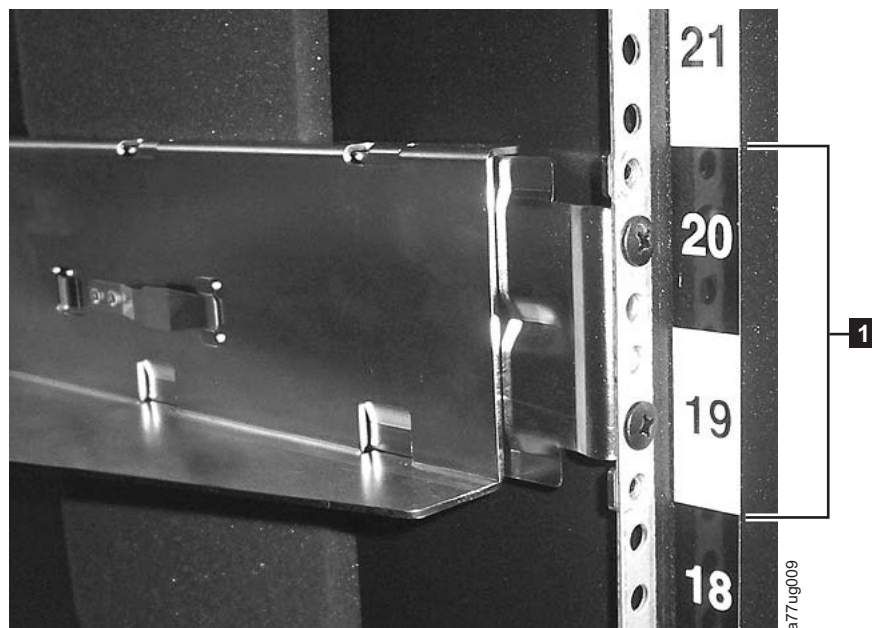

Figure 4-9. Rear view of Rack Kit A which shows the narrow part of the rail located at the rear of the rack.
- 2 rails (not shown) See Figure 4-9 on page 4-9 for a graphic of the rails.
- Using the screws for your rack type (round holes or square holes) and a #2 Phillips screwdriver and ensuring that the flange on each rail points toward the other to form a shelf, secure one rail to each side of the rack in your chosen rack location. Secure both the front and back of each rail to the rack. The narrow end of each rail goes to the rear of the rack. The rails extend to fit a variety of rack depths. Each rail requires 2U of rack space (**1** in Figure 4-9).